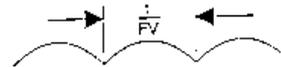
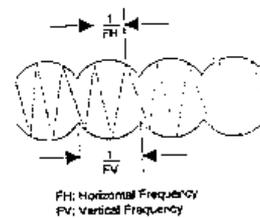

Figure 3-3 Voltage Correction Wave
Figure 3-4 Current Correction Wave
1. If the width of the border in the center of screen is insufficient, the waveform shown in Figure 3-3 below, can be used to add horizontal deflection B+ in order to change deflection of the horizontal deflection circuit. This waveform is the parabola obtained regulation of the vertical period, and is used to perform amplitude modulation on the horizontal deflection current, as shown in Figure 3-4.